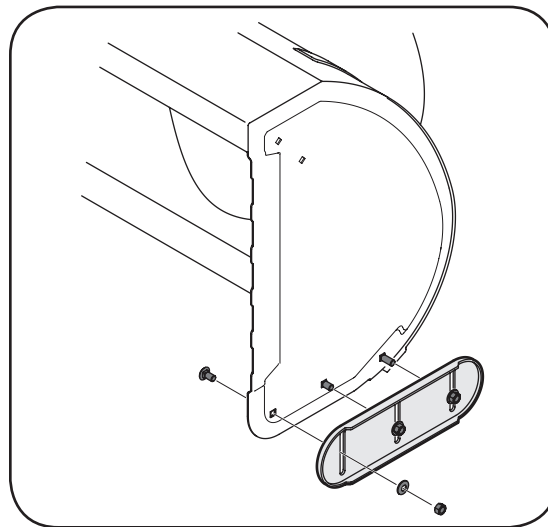

Figure 5-5
1. Adjust skid shoes by loosening the six hex nuts, washers, and carriage bolts and moving skid shoes to desired position. See Figure 5-5.